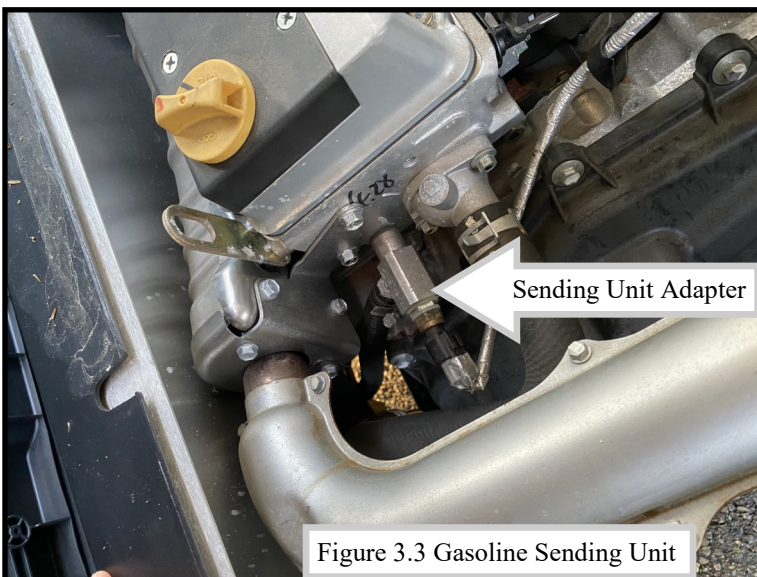

Figure 3.3 Gasoline Sending Unit
**3.3 Gasoline Engine:** For the supply line into the heater, remove the sending unit. Install the sending unit in the hex bushing of the sending unit adaptor. Install the hex bushing into the end of the adaptor with a large plastic washer. Gasoline models have a heat shield next to the sending unit. The heat shield can be temporarily removed to gain better access. Ref.: fig. 3.3 shows the latest additional guards installed to the exhaust.
Install a small plastic washer onto the end of the sending unit adaptor and install into the engine block where the sending unit was removed. If the sending unit adaptor does not tighten so that the port on the side for the 3/8" NPT nipple points as shown in Figure 3.3, then remove it and install another small plastic washer and try again. Reconnect the sending unit wire.